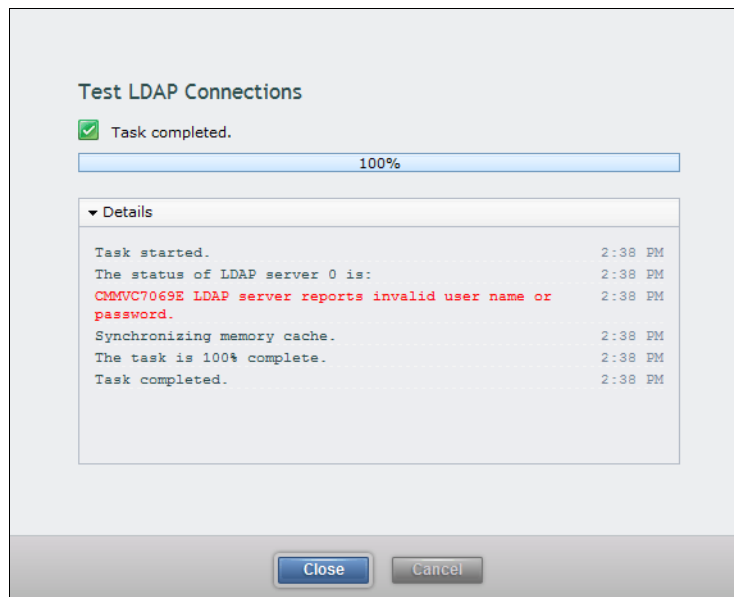

Figure 9-53 Remote Authentication: Test unsuccessful
When you click **Test**, the CLI command window opens (Figure 9-53):
- If the test is unsuccessful, you see the message in Figure 9-53.